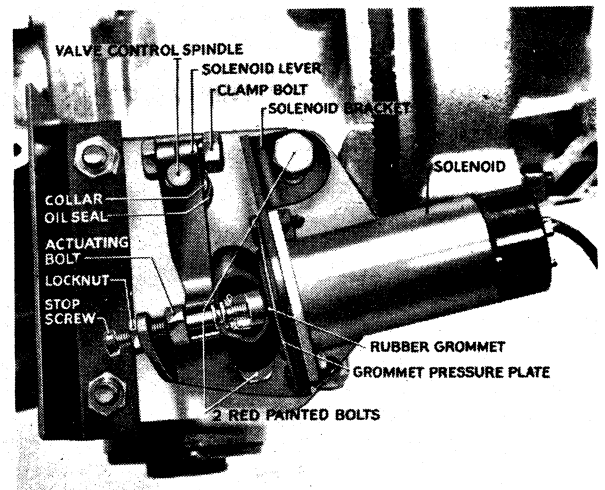

Fig. 28 Solenoid Operating Details in assembled form.
6. Fit the solenoid lever to the actuating bolt as shown in Fig. 28.
12. Fit the actuating bolt stop screw and locknut (Fig. 28). By holding the operating lever against the head of the actuating bolt and moving the lever, a certain amount of free travel should be felt. Adjust the stop screw until this free travel is reduced to $\frac{1}{16}$ " when not in overdrive and then tighten the locknut. It is important that there should be lost movement at this point.